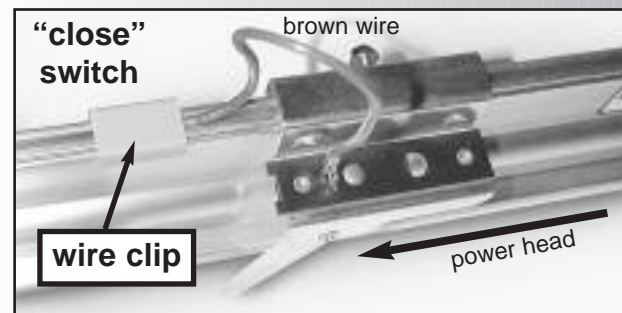

Fig. 1-10
- Leaving some slack in wire (**Fig. 1-10**), run wire down inside groove in top of boom back to power head.
- Use wire clip [44] to help maintain slack. **Fig. 1-10.**